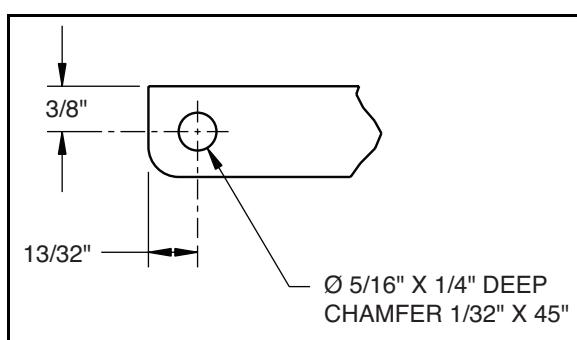

Figure 3B
4. Drill hole for lower door hinge (**Figure 3B**).